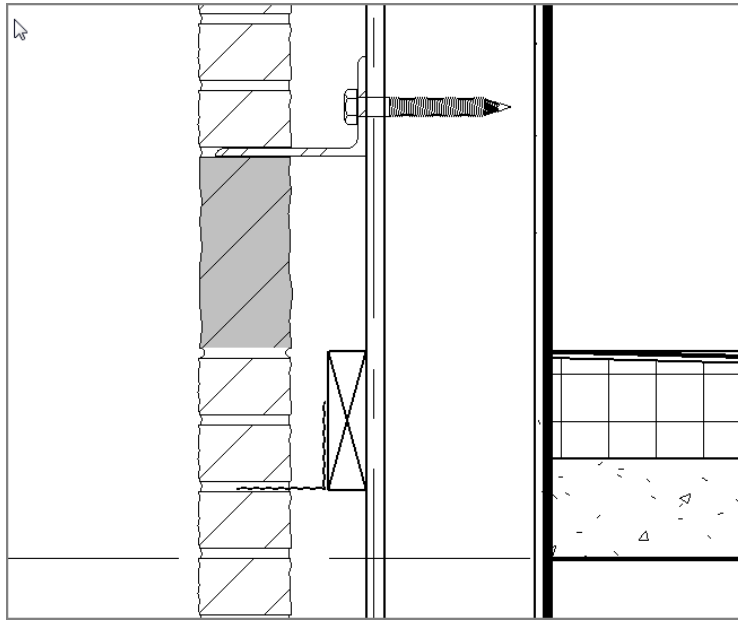

FIGURE 12.41: Placing the corrugated wall tie
7. Use the **Detail Component** button to place the wall tie into your model, as shown in Figure 12.41.